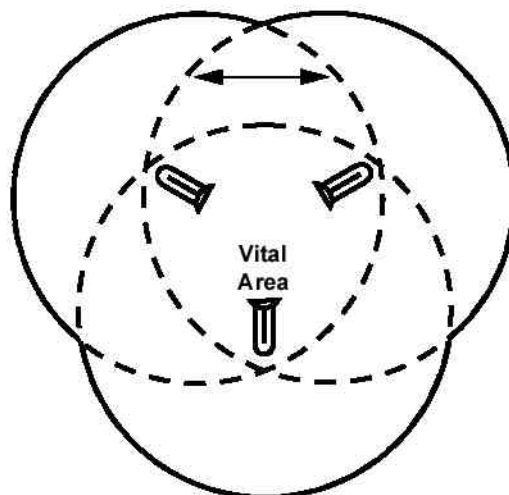

Figure 3-8. LAAD Mutual Support.
- | **Mutual Support.** Mutual support results from positioning individual assets so they deliver fires into dead zones that surround adjacent assets. Mutual support (see fig. 3-8) enhances defensive survivability. The required maximum distance between air defense units and assets to achieve mutual support varies depending on the type of air defense weapon and the speed and altitude of the threat.